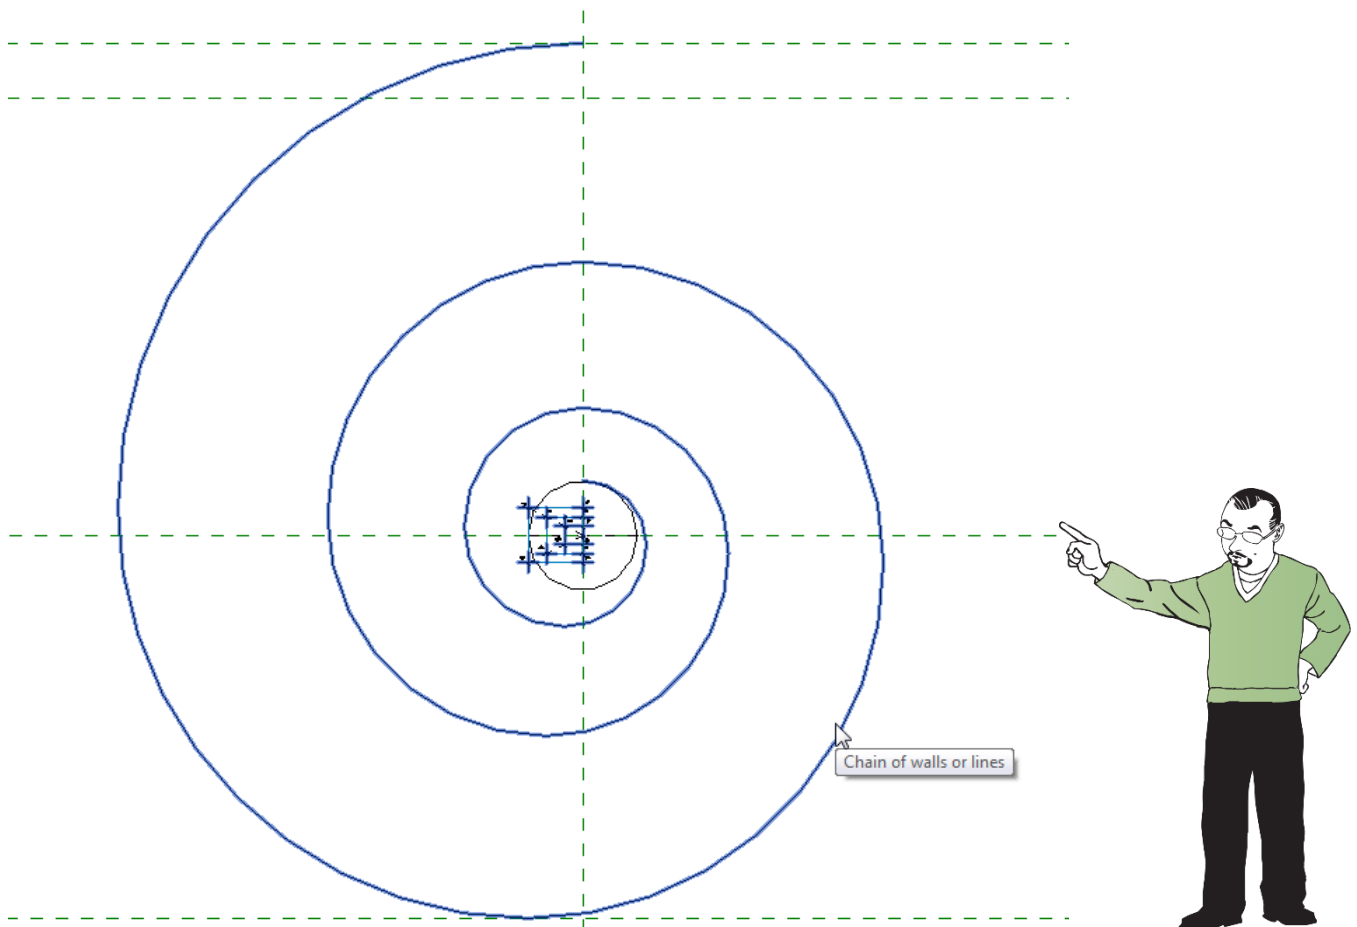

FIGURE 11—ADD THE REMAINDER OF THE 12 ARCS AND FLEX TO ENSURE IT IS WORKING
- When you complete arc 12, flex again trying several different values like: **0.500**, **0.750**, **1.250**, **1.500** and **2.000**. Return to **1.000** before continuing (see Figure 11).